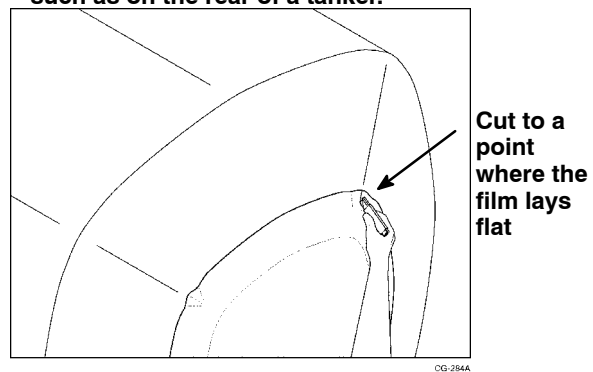

Figure 4. Cutting The Excess Film
- a. Cut to a point where the film lays flat. See Figure 4.